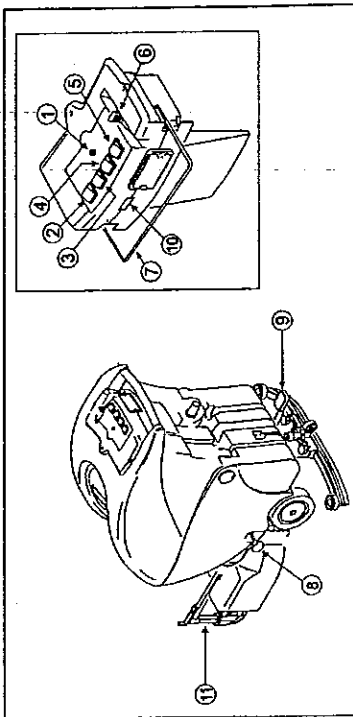
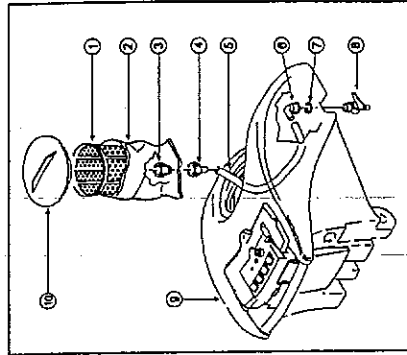

Fig. 6
Fig. 12
Feed the machine and press "1" on both the main switch (fig. 6, ref. 2) and the brush switch (fig. 6, ref. 3).
To install the brush, lay it on the floor before the machine, stand at the rear of the scrubber and push on the handle in order to lift its front part. Go ahead (holding down the handle) and centre the flange on the brush. Then rest the machine on the brush. Operate the brush control lever (fig. 6, ref. 7) for short instants: the brush is "screwed" in the hub automatically. If the operation is not successful, press on the handle again and repeat the centering operation pressing the brush control lever.
- check that the cock control lever (fig. 6, ref. 6) is at the position "off";
- the power supply led lights up (fig. 6, ref. 1);
- press "1" on the main switch (fig. 6, ref. 2) to enable all the machine functions;
- move the cock lever (fig. 6, ref. 6) to the position of minimum flow of solution: the detergent solution begins to reach the brush;
- if the machine is provided with the Recycling set accessory (see respective paragraph), turn on the recycling cock (fig. 12, ref. 8);
- lower the scrubber by means of the proper pedal (fig. 6, ref. 9);
- press "1" on the brush switch (fig. 6, ref. 3) to enable the function "Brush";
- press "1" on the suction unit switch (fig. 6, ref. 4) to start the suction motor;
- press the brush lever (fig. 6, ref. 7) beneath the handle: the brush motor starts. The brush turns and spreads the solution on the floor.
- while working, check the quality of washing and, if necessary, adjust the flow of solution sent to the brush (by turning the lever (fig. 6, ref. 6)).
- **Models with battery:** if the warning led (fig. 6, ref. 1) starts flashing, it means that the storage batteries are getting flat. Therefore, it is necessary to recharge them, as there is no device blocking the total running of the machine; if you keep on working, the batteries could become damaged irreparably.
If the brush control lever (fig. 6, ref. 7) is operated intermittent for a long time, the brush motor could become overheated and therefore damaged. Moreover, in machines with cable the motor needs 2-3 seconds of rest to get started without strain. For this reason limit the "lever shots" to the sole events when they are strictly necessary.
- move the cock lever (fig. 6, ref. 6) and the recycling cock (fig. 12, ref. 8) to the position "CLOSED" (optional - see respective paragraph);
- release the brush lever (fig. 6, ref. 7) placed beneath the handle: the brush motor switches off and the machine stops;
- press "0" on the brush switch (fig. 6, ref. 3) to disable the function "Brush";
1. unscrew the tank cap (fig. 12, ref. 10) from the recovery tank (fig. 12, ref. 9);
5. connect the tube (fig. 12, ref. 5), the curve joint (fig. 12, ref. 6) and the straight joint (fig. 12, ref. 4);
6. insert the recycling cock in the hole (fig. 12, ref. 8) and put the ring (fig. 12, ref. 7) on the thread of the recycling cock inside the recovery tank (see fig. 12);
7. fix the recycling cock to the tank, screwing the curved joint on it (fig. 12, ref. 6) as shown in fig. 12;
8. insert the recycling filter (fig. 12, ref. 1) in the filtering sack (fig. 12, ref. 2);
9. screw the straight joint (fig. 12, ref. 4) to the reducer (fig. 12, ref. 3) coming out of the filtering sack;
10. insert the *recycling filter-filtering* sack unit in the recovery tank (fig. 12, ref. 9), placing it in its proper seat in the tank opening;
11. finally close the tank by screwing the tank cap (fig. 12, ref. 10).
To use the Recycling sack accessory, it is sufficient to turn on the recycling cock (fig. 12, ref. 8) once the detergent solution, which was previously poured into the solution tank (fig. 2, ref. 7), is finished: in this way, the water sucked up from the floor by the squeegee passes from the recovery tank to the solution tank, after having been filtered. Then it is possible to carry out another cleaning cycle. At the end of work turn off the recycling cock.